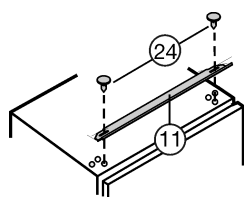

Fig. 20
- Screw Fig. 20 (11) the equalizer trim Fig. 20 (24) onto the top of the appliance through the oblong holes.
- Slide the equalizer trim *Fig. 20 (11)* toward the handle side as far as it will go.